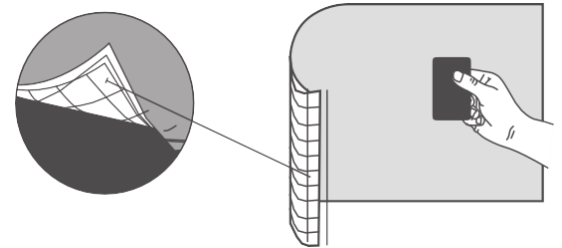

Figure 3: 3M™ Comply™ Air-Release Channels
- Easy Application — 3M™ Comply™ Adhesive technology virtually eliminates bubbles, simplifying and speeding application (see Figure 3).